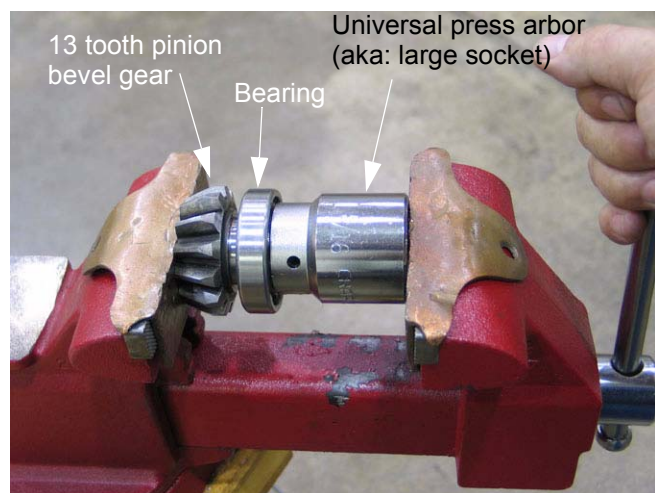

Figure 8.14
8.14. Carefully press the 13 tooth pinion bevel gear into the bearing that carries it. Use care to isolate pressing force to the inner race of the bearing. See Figure 8.14.